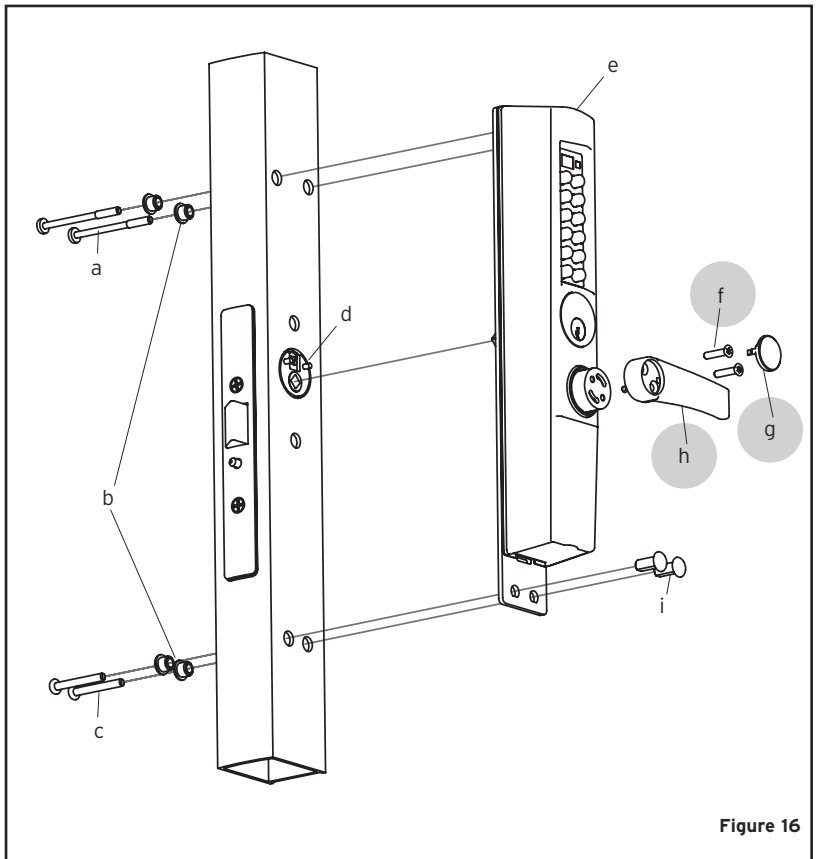

Figure 16
- D-7 Locks with Levers**—Based on the required handing of the lock as determined in section C, install the Lever (h) and Lever Cap (g) using torx screws (f) and provided torx wrench. Secure lever cap (g) with Allen Set Screw using supplied Allen wrench. **(See Figure 16)**